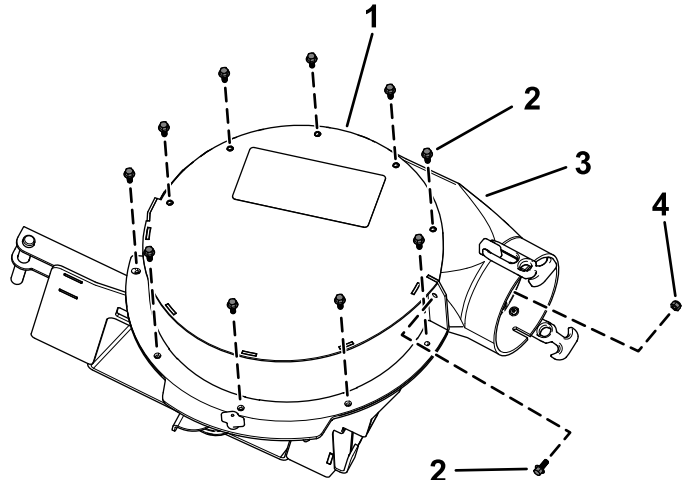

Figure 3
3. Secure the cover to the blower assembly using the 11 hex-head bolts (1/4 x 5/8 inch) and 1 locknut (1/4 inch) as shown in Figure 3.